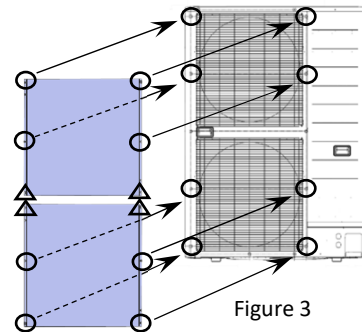

Figure 3
(1) Using the 12 holes of wind baffle flanges and 8 holes of unit as shown in Figure 3. 4 holes of unit is made the holes by self-drilling screw. Make sure that the wind baffle does not cover the service panel. Note that the lower fan rotates the wind baffle 180 degrees with respect to the upper fan.